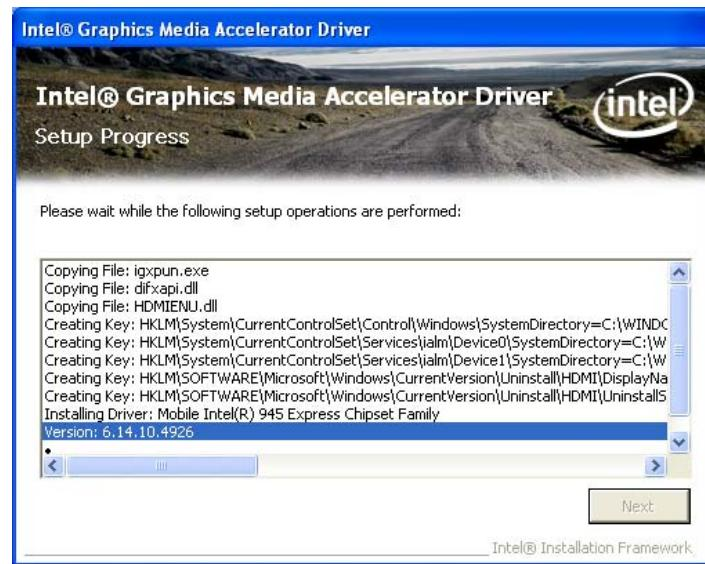

Figure 6-15: VGA Driver Setup Operations
Step 13: Setup Operations are performed as shown in **Figure 6-15**.